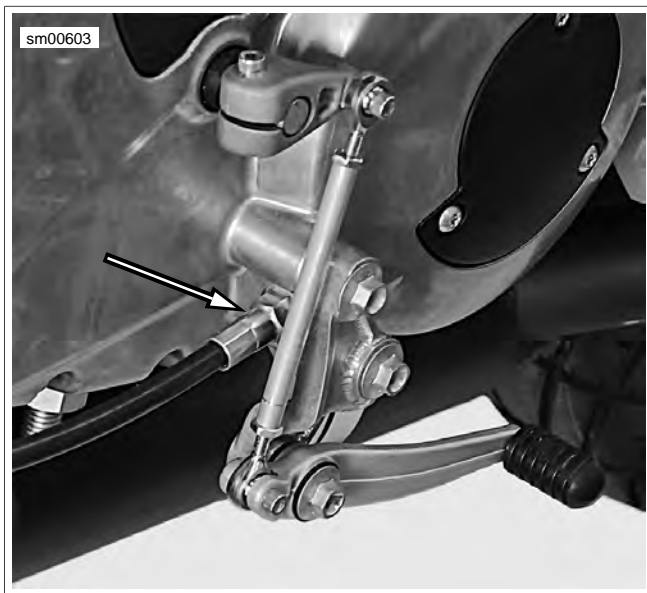

Figure 2-136. Clutch Cable and Fitting
14. See Figure 2-136. Unscrew the cable fitting from the primary cover. Remove clutch cable and fitting.